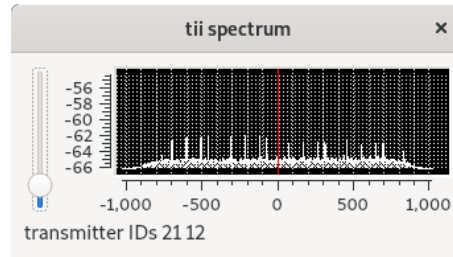

Figure 7: TII spectrum
**TII button** Touching the button labeled *TII* will instruct the software to show a widget (figure 7) with the spectrum of the null period between DAB frames. The TII data (Transmitter Identification Information) is extracted from the spectrum of the null periods. On touching the button again the widget will disappear.